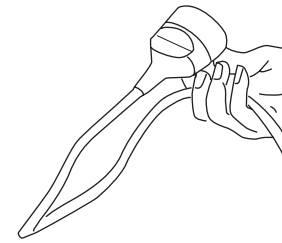

Fig. 20
1. Make sure the on/off switch (8) is in its off position.
2. Double the extension cord back about a foot from the end, lead the loop through the hole (6) and hook the loop over the cable strain relief (5), gently tug on the cord to ensure that it is firmly secured. (Fig. 20, 21).